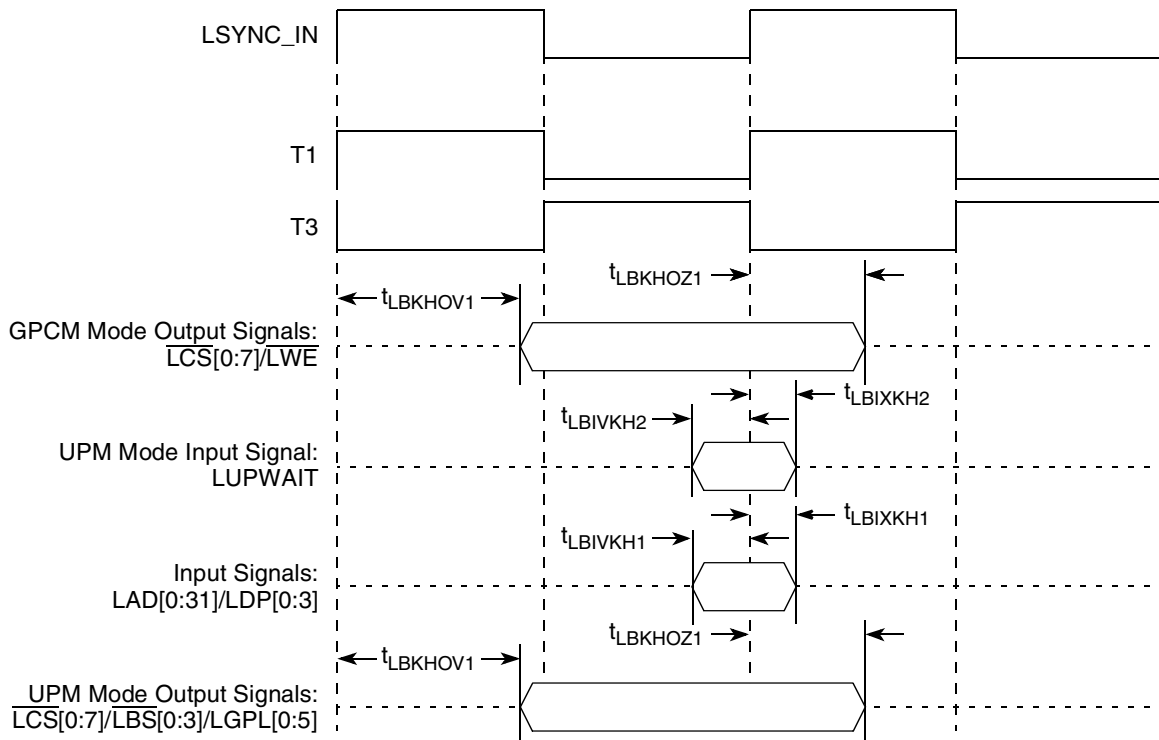

Figure 19. Local Bus Signals, GPCM/UPM Signals for LCCR[CLKDIV] = 2 (DLL Enabled)
2.0	<p>Section 1.1—Updated features list to coincide with latest version of the reference manual</p> <p>Table 1 and Table 2— Addition of CPM to OV_{DD} and OV_{IN}; Addition of SYSCLK to OV_{IN}</p> <p>Table 2—Addition of notes 1 and 2</p> <p>Table 3—Addition of note 1</p> <p>Table 5—New</p> <p>Section 4—New</p> <p>Table 13—Addition of I_{VREF}</p> <p>Table 15—Modified maximum values for t_{DISKEW}</p> <p>Table 16—Added MSYNC_OUT to t_{MCKSKEW2}</p> <p>Figure 5—New</p> <p>Section 6.2.1—Removed Figure 4, "DDR SDRAM Input Timing Diagram"</p> <p>Section 7.1—Removed references to 2.5 V from first paragraph</p> <p>Figure 8—New</p> <p>Table 19 and Table 20—Modified "conditions" for I_{IH} and I_{IL}</p> <p>Table 21—Addition of min and max for GTX_CLK125 reference clock duty cycle</p> <p>Table 25—Addition of min and max for GTX_CLK125 reference clock duty cycle</p> <p>Table 27—Addition of min and max for GTX_CLK125 reference clock duty cycle</p> <p>Figure 17 and Figure 19—Changed LSYNC_IN to Internal clock at top of each figure</p> <p>Table 34—Modified values for t_{FIIVKH}, t_{NIIVKH}, and t_{TDIVKH}; addition of t_{PIIVKH} and t_{PIIXKH}.</p> <p>Table 35—Modified values for t_{FEKHOX}, t_{NIKHOX}, t_{NEKHOX}, t_{TDKHOX}; addition of t_{PIKHOX}.</p> <p>Figure 16—New</p> <p>Figure 30—New</p> <p>Figure 16—New</p> <p>Figure 16—New</p> <p>Table 31—Removed row for t_{LBKHOX3}</p> <p>Table 44—New (AC timing of PCI-X at 66 MHz)</p> <p>Table 54—Addition of note 19</p> <p>Figure 61—Addition of jumper and note at top of diagram</p> <p>Table 56—Changed max bus freq for 667 core to 166</p> <p>Section 16.2.1—Modified first paragraph</p> <p>Figure 52—Modified</p> <p>Figure 53—New</p> <p>Table 60—Modified thermal resistance data</p> <p>Section 16.2.4.2—Modified first and second paragraphs</p>